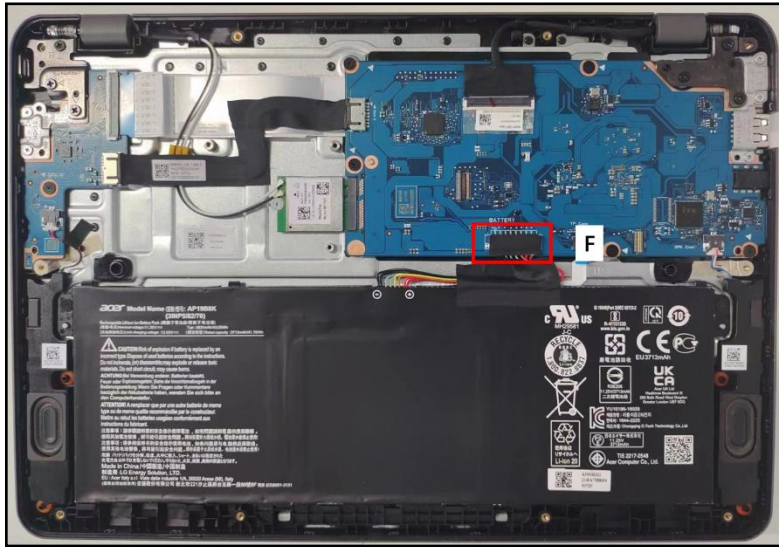

Figure 3-117. Replacing the Battery Pack
6. Attach the transparent mylar (F) to secure the battery connector in place (Figure 3-117).